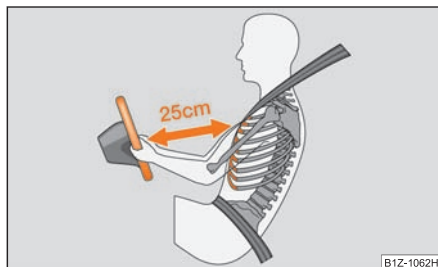

Fig. 152 Safe distance to steering wheel
- For the driver and front passenger it is important to maintain a distance of at least 25 cm from the steering wheel or dash panel ⇒ fig. 152. Not maintaining this minimum distance will mean that the airbag system will not be able to properly protect you – hazard! The front seats and the head restraints must always also be correctly adjusted to match the body size of the occupant.